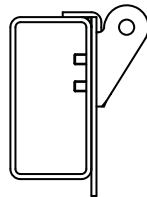

Figure 28
- 1) **Figures 28 & 29.** Align bracket with marked bow location and place on top of rail.